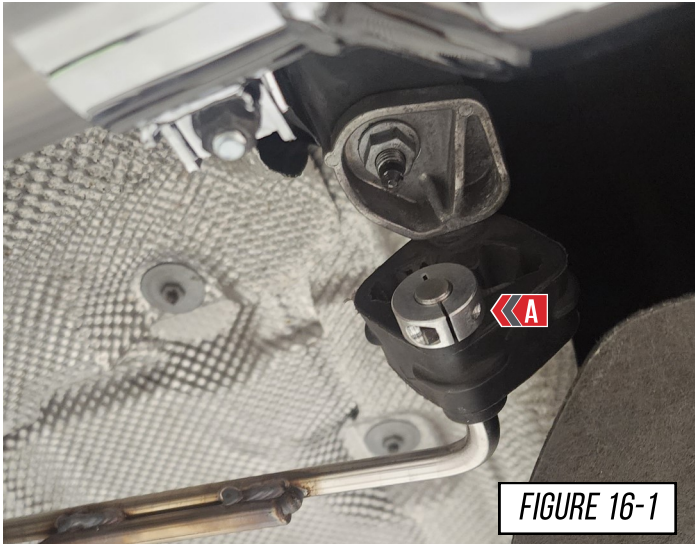
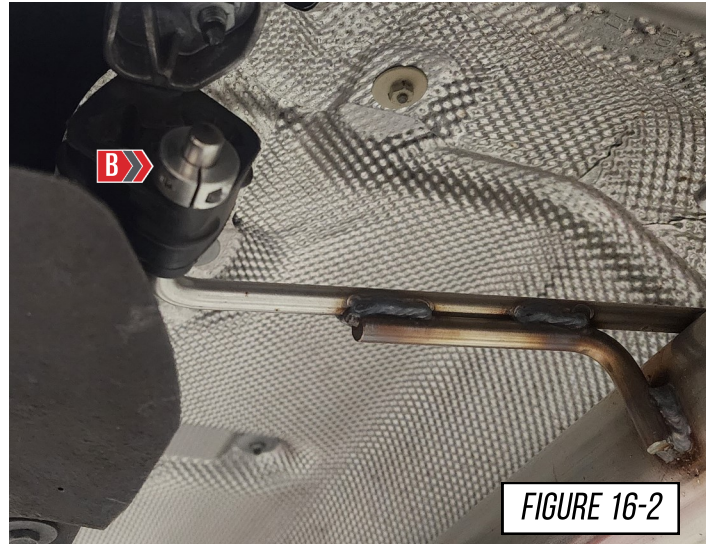

FIGURE 16-1
FIGURE 16-2
Install your AWE lock collars on the AWE rear section hanger bars. The driver side lock collar (A) is shown in **Figure 16-1**. The passenger side lock collar (B) is shown in **Figure 16-2**.